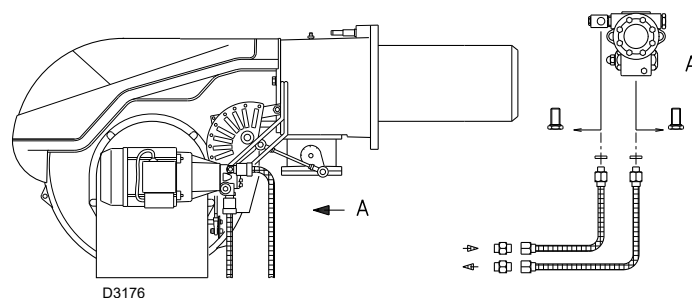

Fig. 20
4.8.4 Hydraulic connections (Fig. 20)